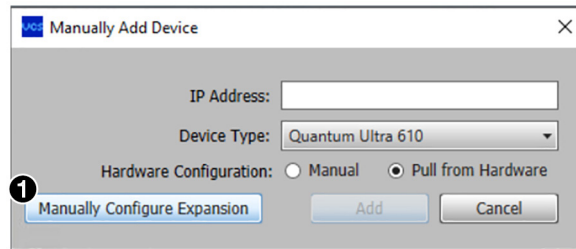

Figure 83. Manually Add Device Window
2. On the **Manually Add Device** window, click the **Manually Configure Expansion** button (see figure 83, ①). **Ignore the other fields.**